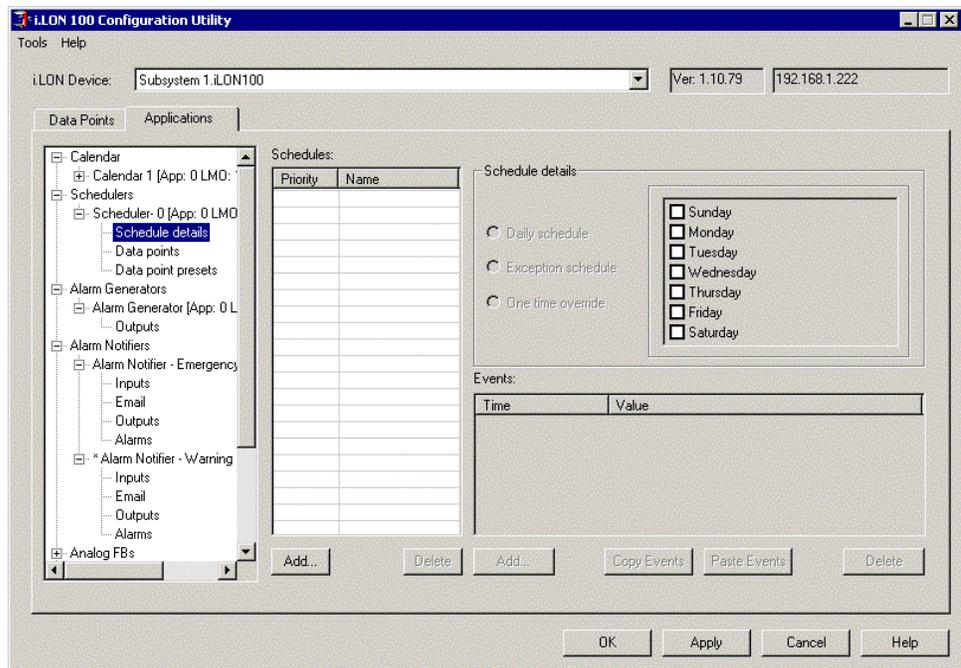

Figure 5.11 Schedule Details Dialog
3. Click **Schedule Details** under the selected Scheduler in the Applications list. The **Schedule Details** dialog opens, as shown in Figure 5.11.